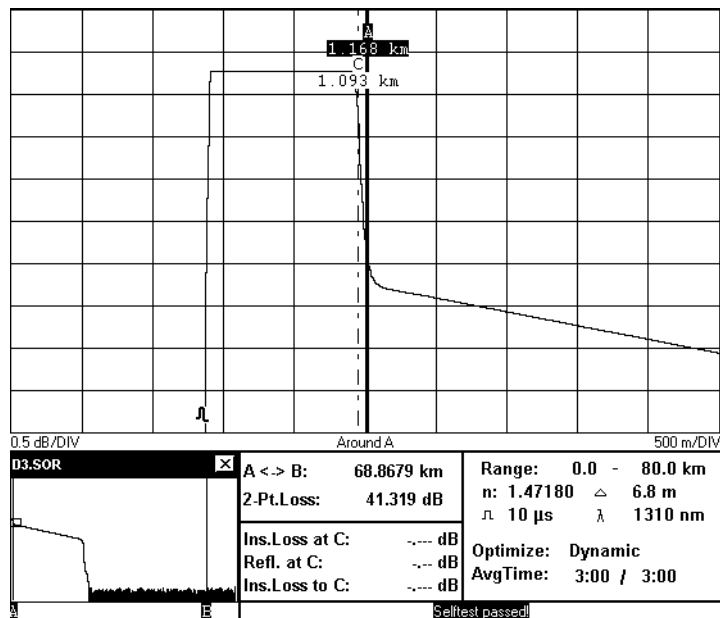

Figure D-3      Dynamic Range Test: Position Marker at End of Frontreflection
- 21 Position marker A at the end of the frontreflection on the level of the extrapolated beginning of the backscatter (crossing between frontreflection and horizontal grid line). See Figure D-3.